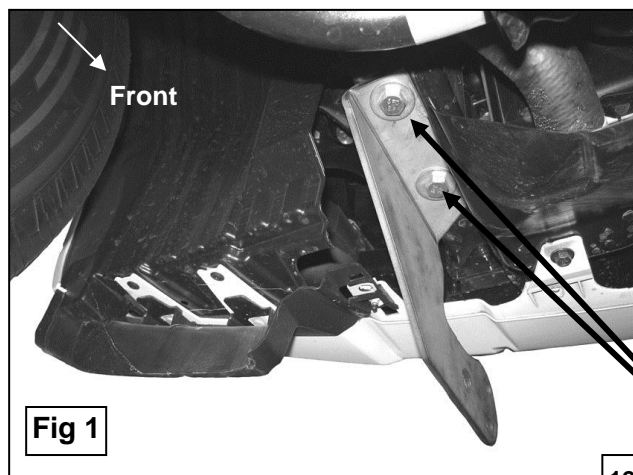

Fig 1
2. Locate the driver side Mounting Bracket and partially hang it from factory threaded holes on the frame rail using the included (2) 12-1.25 x 40mm Hex Head Bolts (fine thread), (2) 12mm Lock Washers, and (2) 12mm Flat Washers, **(Figure 1)**. Repeat this step for passenger side.